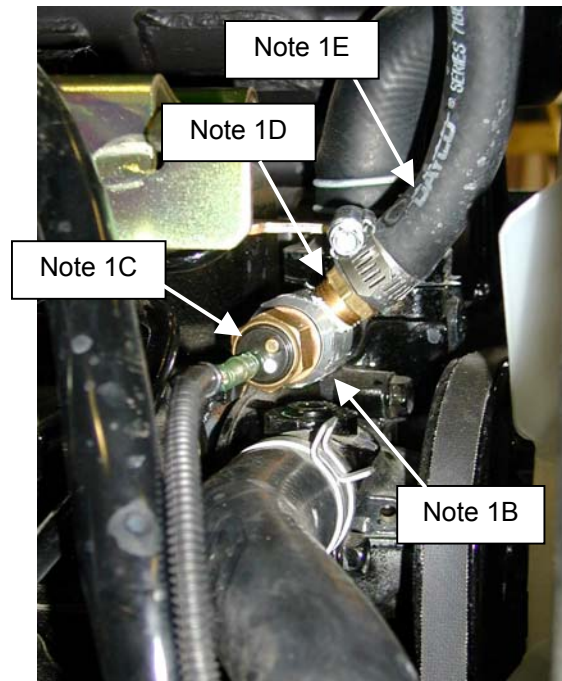

Figure 1
- 3) Remove warning lights from roll bar. Attach warning lights to protective light brackets #7-15661 and #7-15662 using hardware provided: (4) 8mm x 25mm cap-screws & (4) 5/16" lock-washers. Note that there are distinct left and right protective brackets.
- 6) Attach rear mount #7-15640 re-using the rear two ROPS metric bolts on left and right side. Bottom of the rear mount rests on top of upper ROPS mounting plate. See Figure 1.
- 10) Install (4) rubber isolator bushings in front and rear mounts. Insure (2) spacer disks are installed on the front rubber isolators. See Figures 1, 2 & 3.
- B. Install aluminum fitting #3-17262 with O-ring washer #3-16823 into thermostat housing. See Figure 1.
- C. Re-install temperature sensor into the aluminum fitting just installed. See figure 1.
- E. Measure and cut the 5/8" heater hose that routes (Supply Line) from the left (Driver) side of the cab to the thermostat-aluminum-hose nipple fitting. See figure 1.